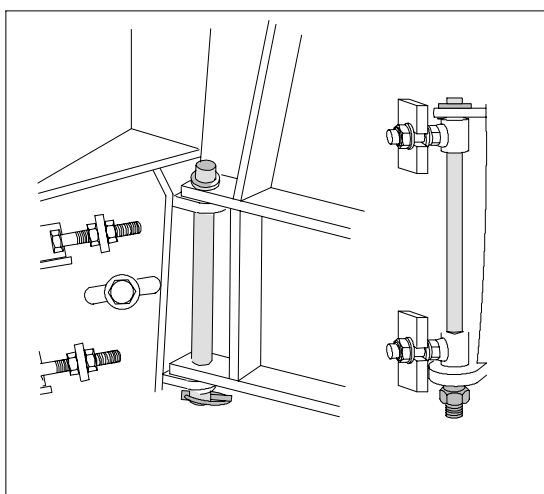

Fig. 3. Mounting the feeder on the chipper.
2. Attach the feeder frame to the chipper pins and lock bolts. Fig. 3.